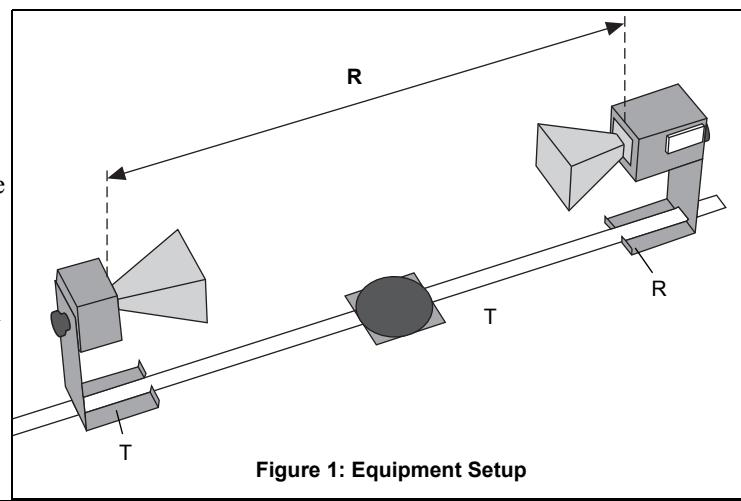
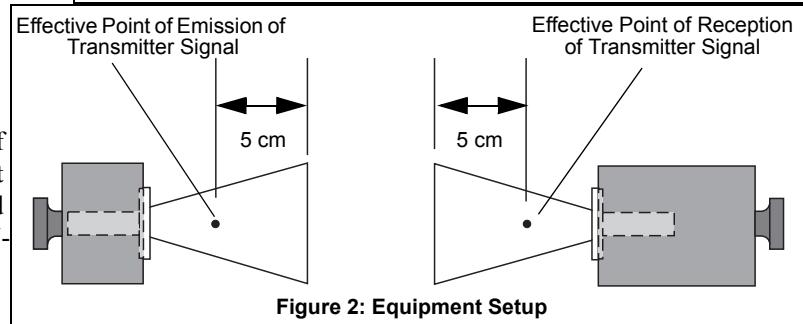

Figure 1: Equipment Setup
Figure 2: Equipment Setup
- Arrange the Transmitter and Receiver on the Goniometer as shown in Figure 1 with the Transmitter attached to the fixed arm. Be sure to adjust both Transmitter and Receiver to the same polarity — the horns should have the same orientation, as shown.
- Adjust the Transmitter and Receiver so the distance between the source diode in the Transmitter and the detector diode in the Receiver (the distance labeled **R** in Figure 1) is 40 cm (see Figure 2 for location of points of transmission and reception). The diodes are at the locations directly above the points marked "T" and "R" on the stands. Adjust the INTENSITY and VARIABLE SENSITIVITY knobs on the Receiver so that the meter reads 1.0 (full scale).